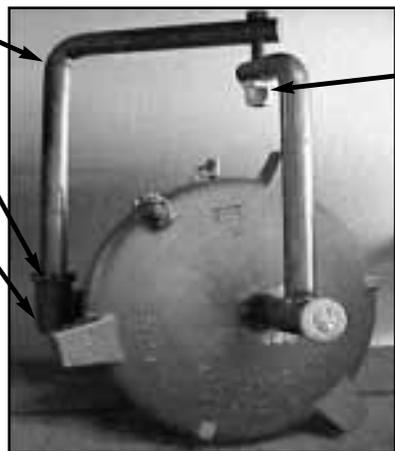

FIGURE No. 8
2. Horizontal hinge 10" through 14": (Refer to Figure No. 8)